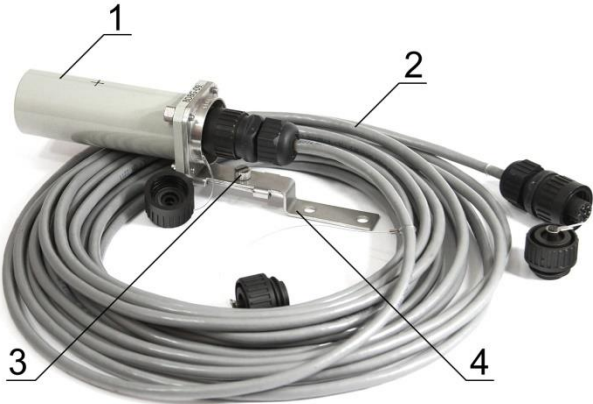

Figure 3 – External view of the detecting unit with the connecting cable
The BDBG-09 detecting unit (1) with the mounting bracket (4) for fastening to the vertical plane and the connected cable (2) are presented in Figure 3.